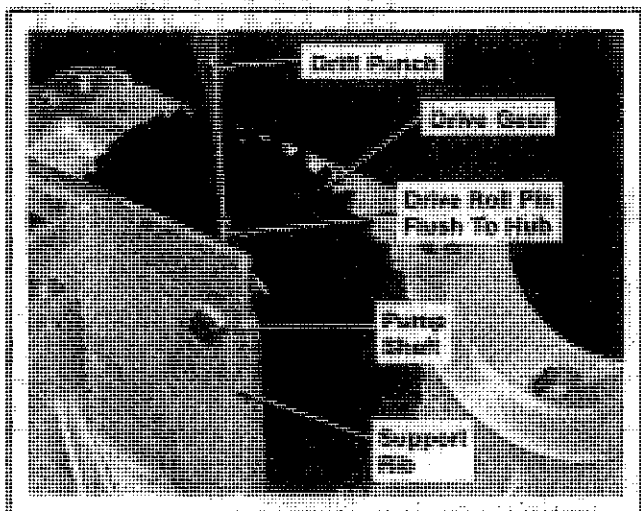

Figure 11-2. Securing Oil Pump Drive Gear To Shaft.
3. Lubricate a new roll pin with grease. Drive the roll pin until it is flush with gear hub. Refer to Figure 11-2.